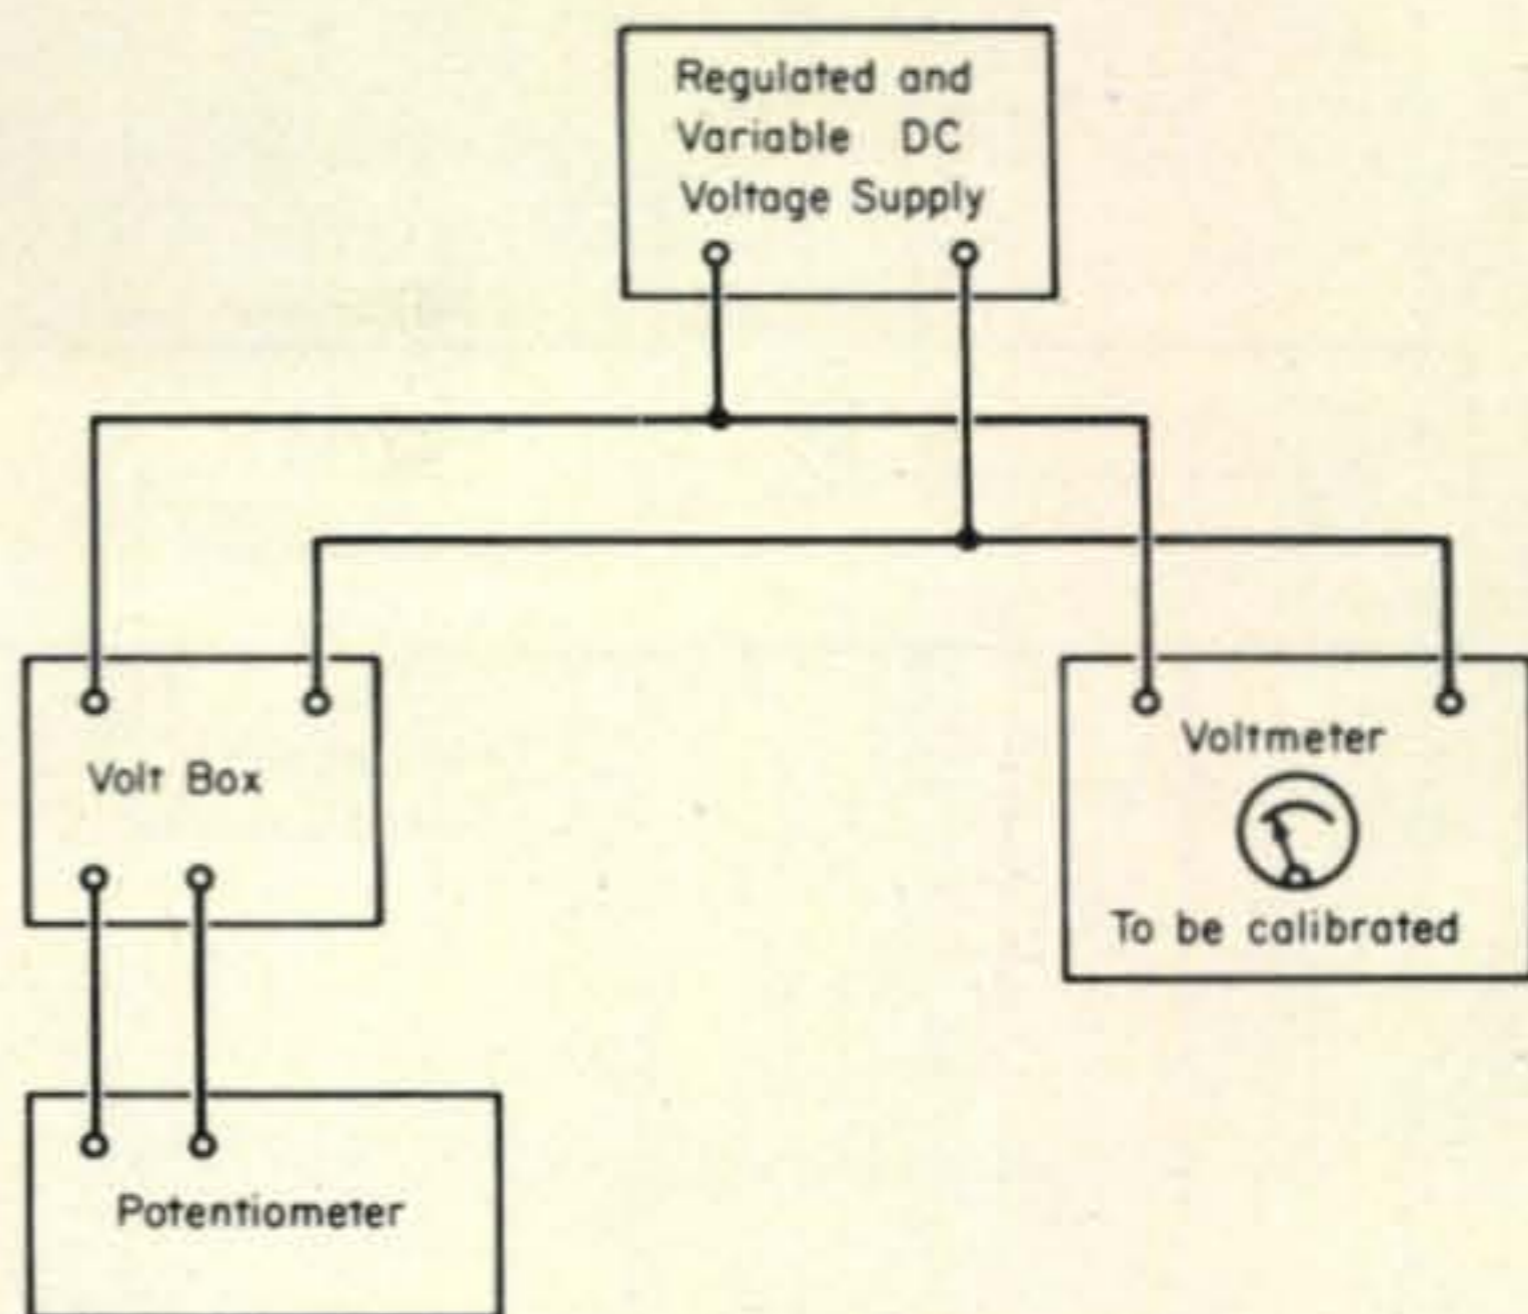

Fig. 8—Basic set up of the equipment to calibrate a voltmeter.
5. Figure 8 shows the interconnection diagram for equipment used to calibrate a d.c. voltmeter. The variable voltage d.c. supply should be a stable unit. The procedure is simple. Vary the output voltage of the supply so that the meter to be calibrated reads full scale. Since the Volt Box is in parallel with the meter being calibrated, the same voltage is applied to it. Now, measure the voltage on